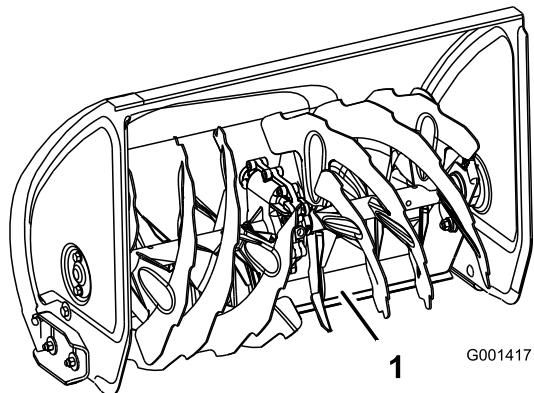

Figure 44
4. Push down on the handles to allow the pivoting scraper to move fully forward, then set the front of the snowblower down so that the front edge of the pivoting scraper contacts the ground (Figure 44).